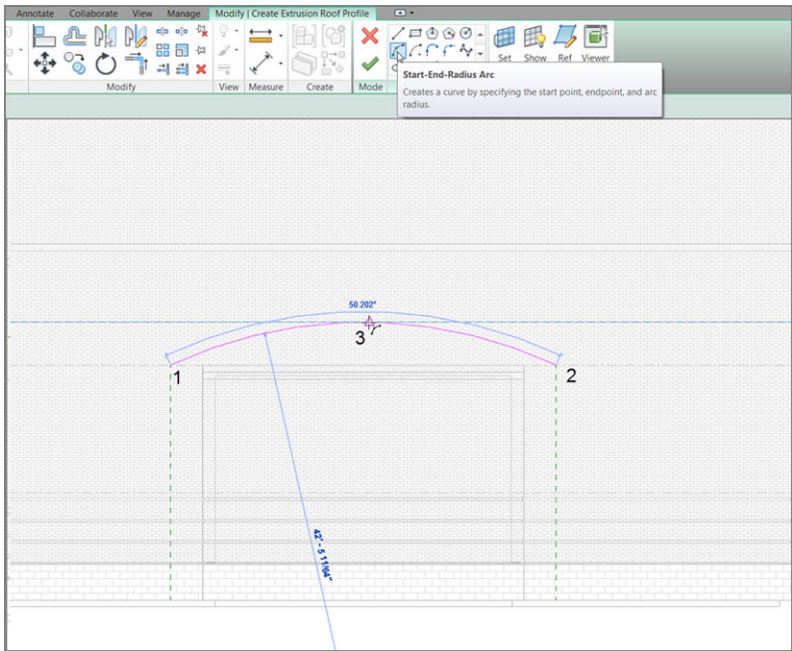

FIGURE 7.53: Drawing an arc, which will define the outside face of the roof
- 1. On the Draw panel of the Modify | Create Extrusion Roof Profile tab, click the Start-End-Radius Arc button, as shown in Figure 7.53.
- 2. Draw an arc from the points shown in Figure 7.53.